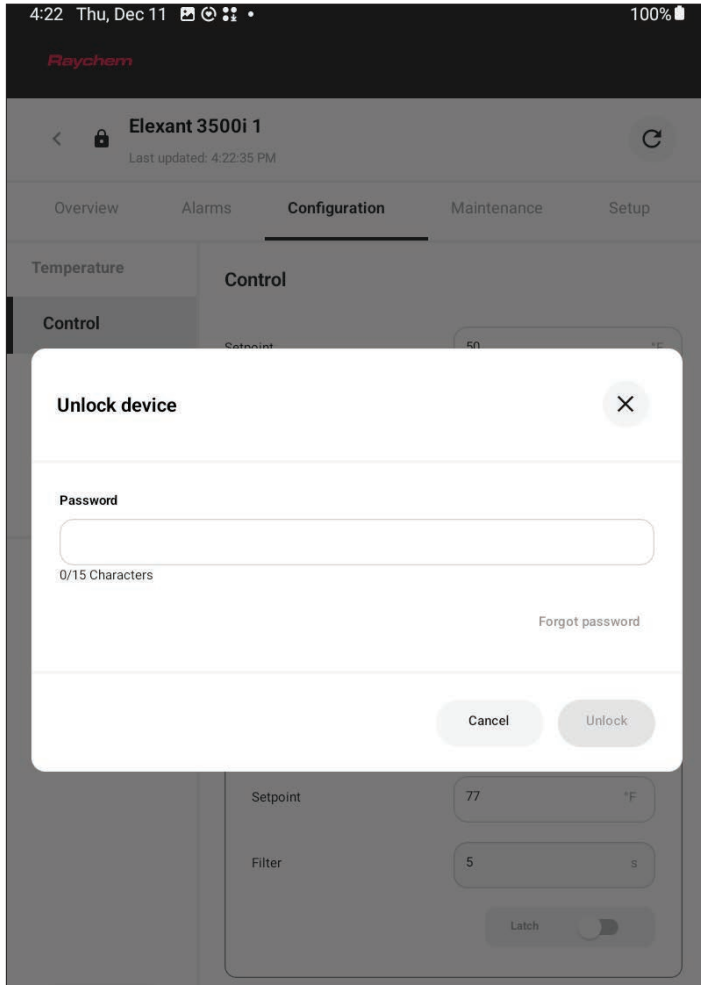

Figure 33: Device Unlock using Lock Icon / Changing Values
- Click the Lock Icon on the top of the screen and you will be prompted asking you to change to unlock the device. Enter the password and click on the Unlock button (**Fig 33**).
- Try to change any of the values with a white background and you will be prompted asking you to unlock the device. Enter the password and click on the Unlock button (**Fig 33**).